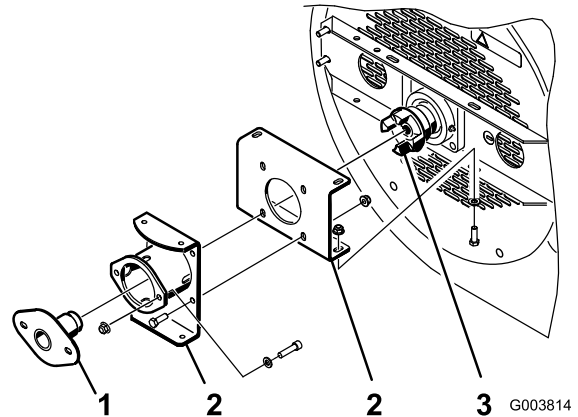
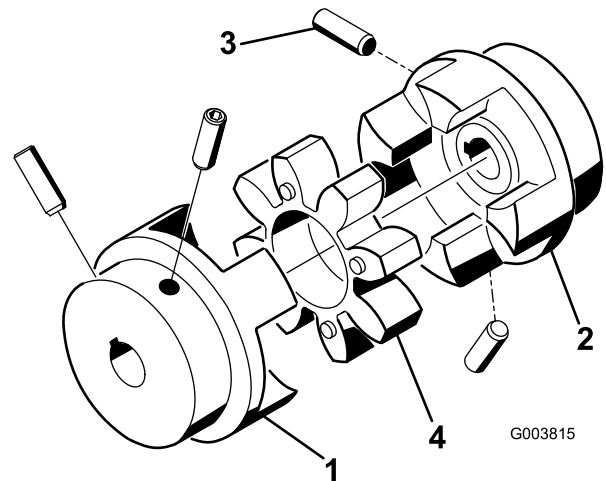

Figure 9
Figure 10
1. Make sure the mounting brackets are installed to the blower housing but bolts and nuts are loose (Figure 9).
2. Insert the bearing alignment tool through the mounting brackets and into the fan coupler (Figure 9). Make sure the spider coupler (Figure 10) is not in the coupler.
- The set screws securing the motor and fan shaft couplers (Figure 10) must be torqued to 58 to 82 in-lb.